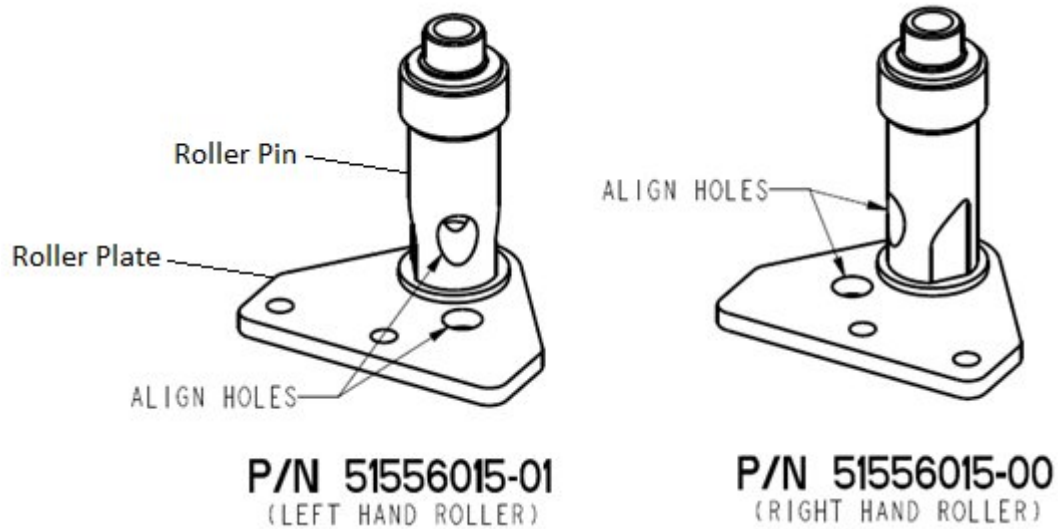
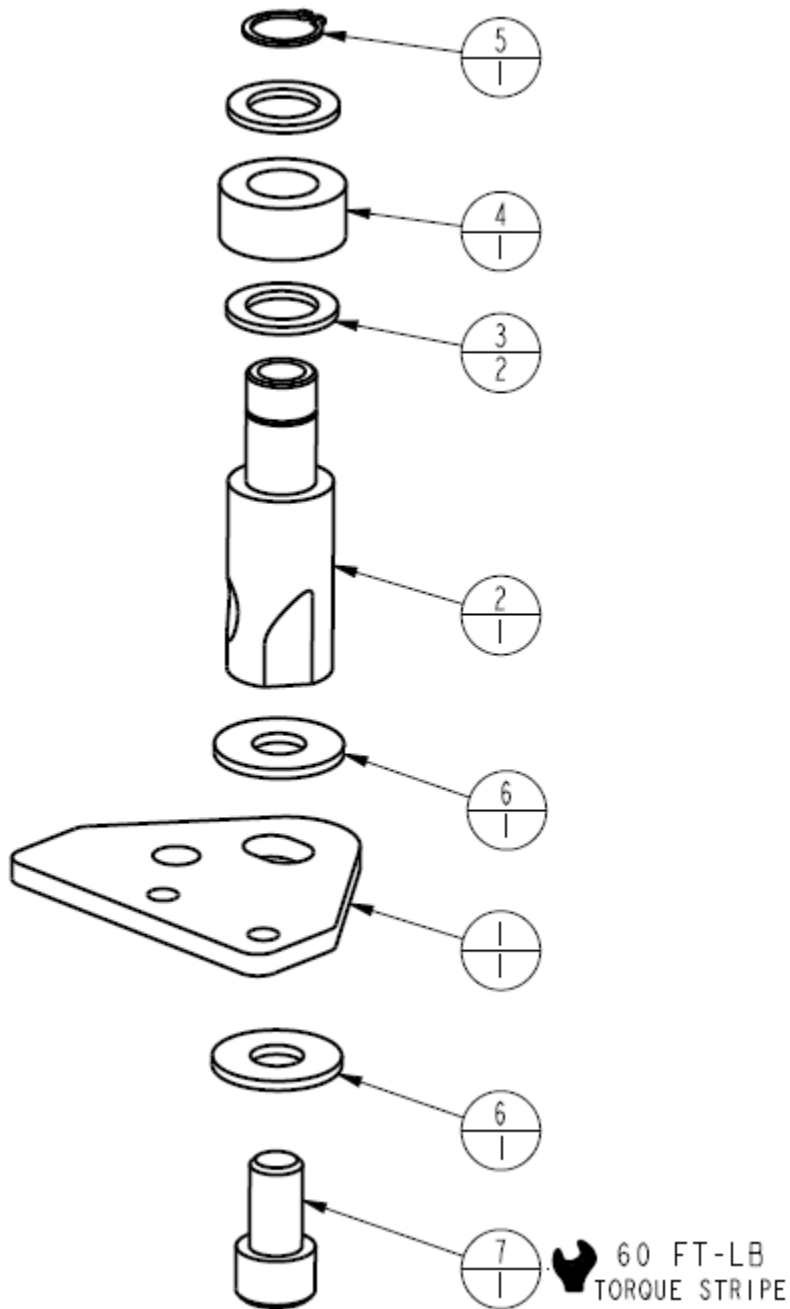

Figure 2 – Roller Pin Orientation on New Roller Plate
Figure 3 – New Roller Bracket Assembly
- H.12. Reinstall roller pin as shown in Figure 3. Make sure to install the additional washer (PN 67122128-03) between the roller pin shoulder and top bracket surface as shown. Also install washer (PN 67122128-03) between the bottom bracket surface and the socket head screw as shown. New washers and large socket head screw are provided.
- H.15. Using a torque wrench, torque the socket head screw that secures the roller pin to the plate to 60 ft-lbs. See Figure 3. Hold the pin in position while tightening screw to maintain adjustment. See Figure 2.